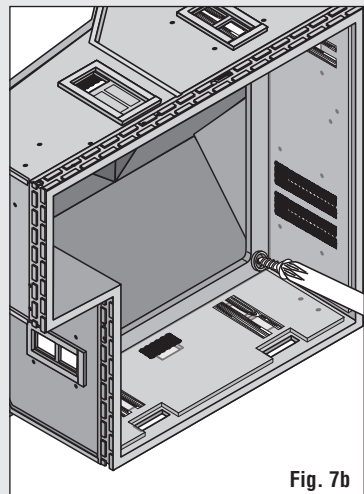

Fig. 7b
- Install Screws 4x from underneath Building (Fig. 7b).